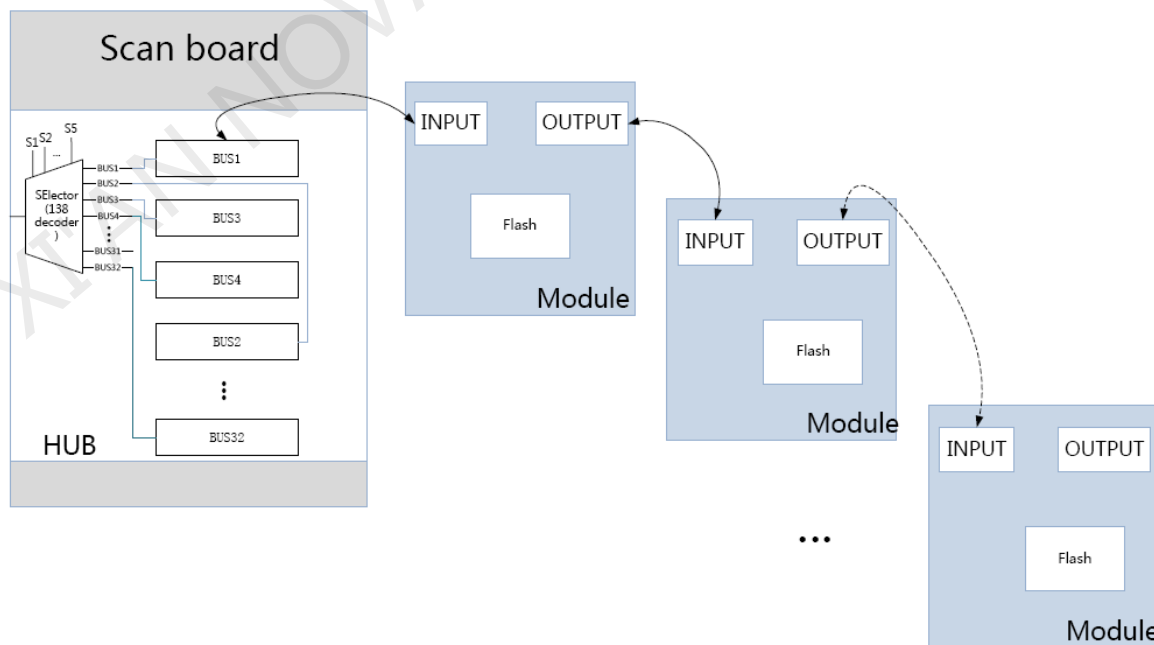

Fig. 5-27 Physical connection schematic diagram of Flash
- Fig.5-27 is the physical connection schematic diagram of Flash. According to that diagram, the sequence number of BUS is determinedly selector. Users shall consult HUB board designer for connection of the flash module to confirm the sequence number of BUS. One BUS can be cascaded with multiple modules. The MOM Topology can be set on the software according to the actual order of connection.